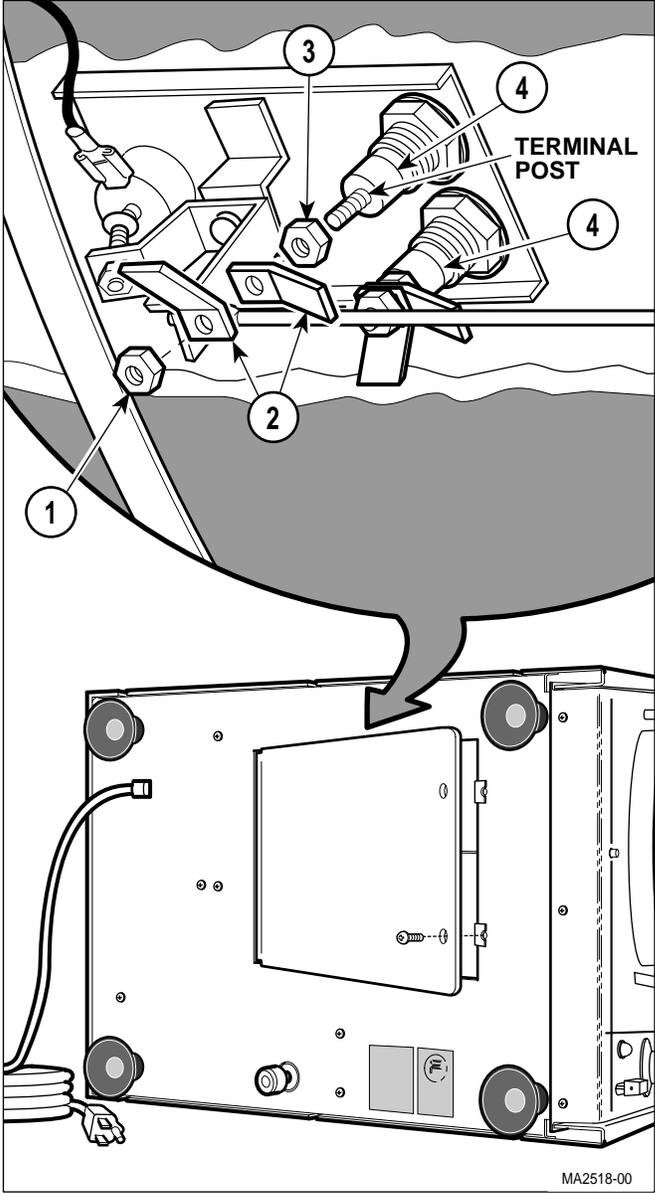

Figure 4-7. Removal Of Terminals From Old Style Heating Element
(8) If unit has an old style heating element, remove nut (1, Figure 4-7), two terminals (2), and nut (3) from each terminal post of heating element (4). Discard nuts and terminals - will receive new style heating element.